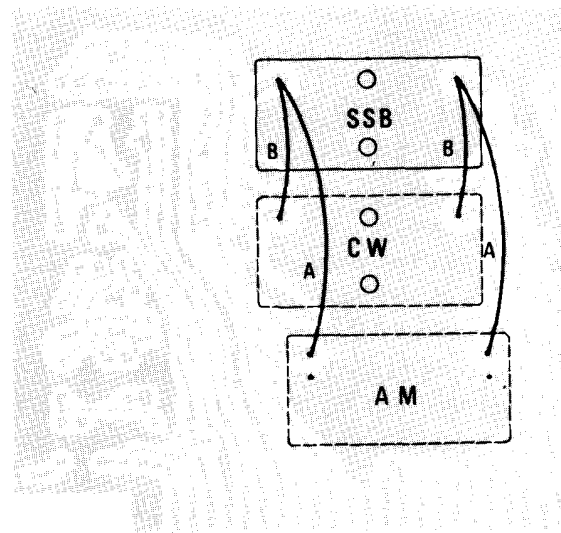

Figure 7.
- (2) Remove the FILTER Unit from its mounting position, shown on page 23.
- (3) For CW filter installation, remove jumpers "B" from the foil side of the board. For AM filter installation, remove the jumpers marked "A" in Figure 7.
- (4) Mount the filter to be installed in the position shown in Figure 7. The CW filter is mounted using a nut, lockwasher, and spring washer. The nut should be tightened so that it is snug, but excessive torque should not be applied. Refer to Figure 8 for mounting details.
- (5) When the CW filter is installed, the CW-W position will select CW operation using the SSB filter, while the CW-N position will select operation using the CW filter. The CW filter will also be switched into the line for FSK operation.